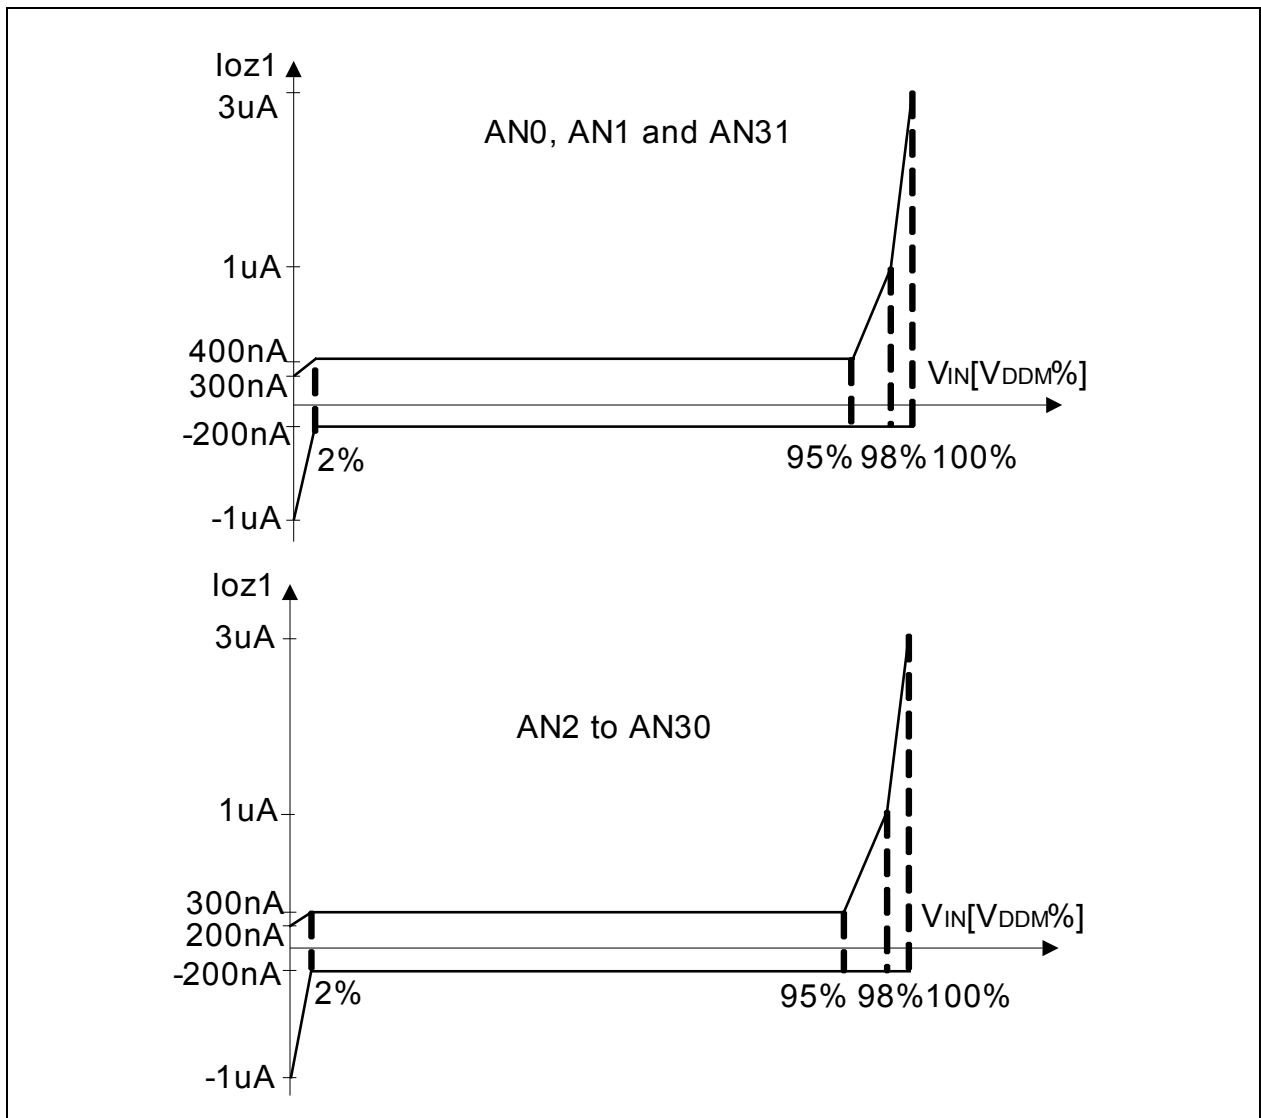

Figure 4-3 ADC0 Analog Inputs Leakage
- 12) The leakage current definition is a continuous function, as shown in Figure 4-3. The numerical values defined determine the characteristic points of the given continuous linear approximation - they do not define step function.